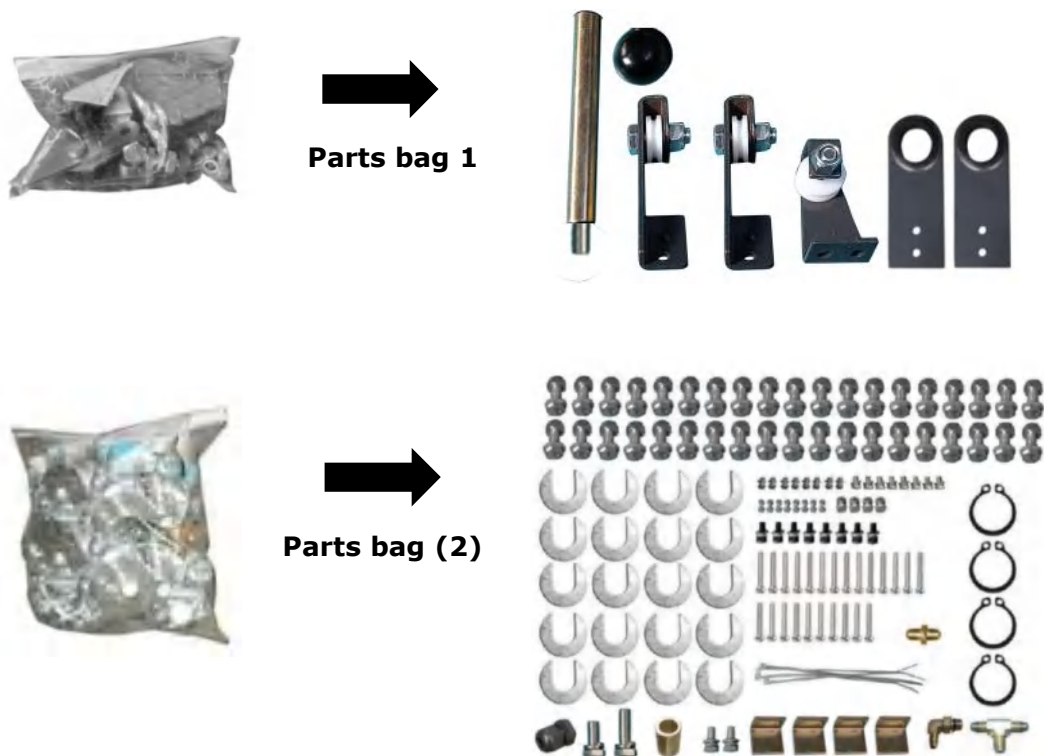

Fig. 17
7. Check the parts of the parts bag 1, 2, 3 according to parts bag list. (See Fig. 17)